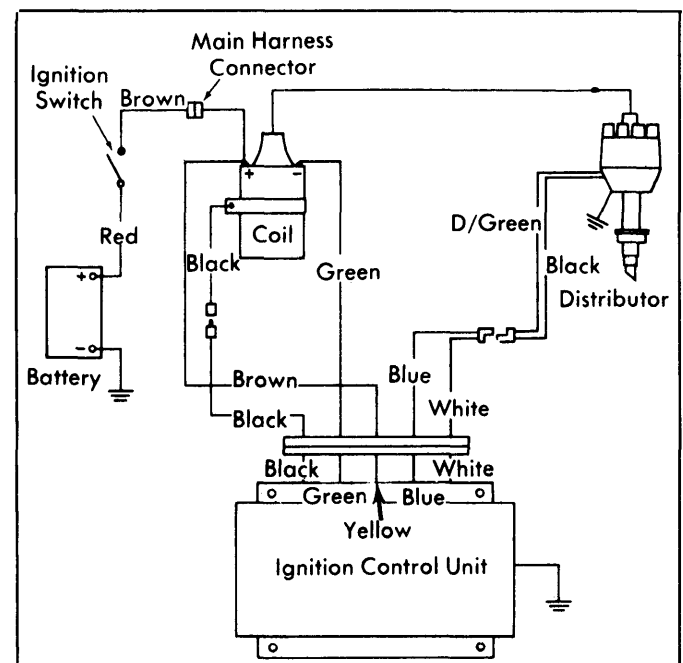

Fig. 3: Ignition System Wiring Schematic
- 3) If distributor assembly is okay and there is still no spark, disconnect Black and Dark Green primary wires from distributor. See Fig. 3. Connect Ignition Tester (J-25331) into wiring harness.